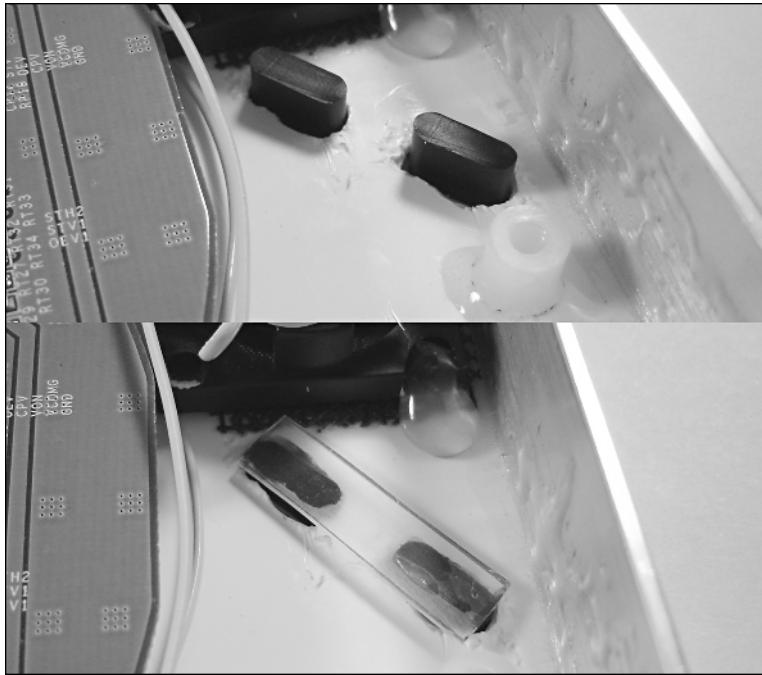

FIGURE 10-29: The select/reset buttons placed in the front of the case.
2. Lay the front of the case down on a flat surface, then set the select/reset buttons in their holes as shown in Figure 10-29, with the cut ends up (inside the case).